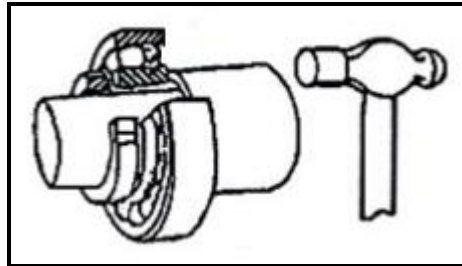

FIGURE 1.1
- 1.1 FIGURE 1.1 shows one of the steps to remove and replace bearings. Which safety procedure is indicated in FIGURE 1.1?